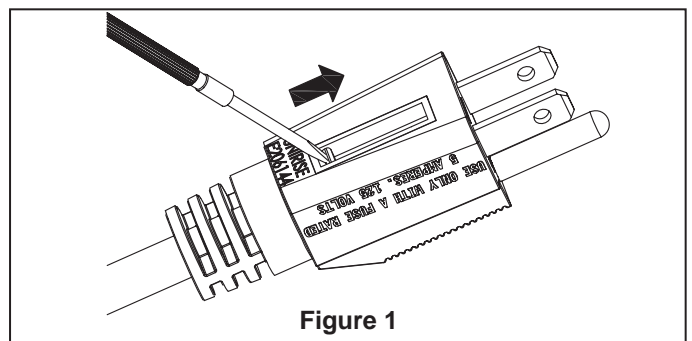

Figure 1
2. Slide open fuse access cover on top of attachment plug towards blades (Fig. 1).